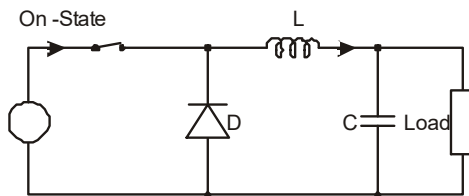

Fig. P9.2: On-state
The two circuit configurations of a buck converter i.e. On-state, when the switch is closed, and Off-state, when the switch is open are shown in Fig. P9.2 and P9.3 respectively. The arrows indicate the direction of flow of conventional current.
- When at first instant the switch is closed (on-state), as shown in Fig. P9.2, the current will begin to increase, and the inductor will produce an opposing voltage across its terminals in response to the changing current. This voltage drop counteracts the voltage of the source and therefore reduces the net voltage across the load.